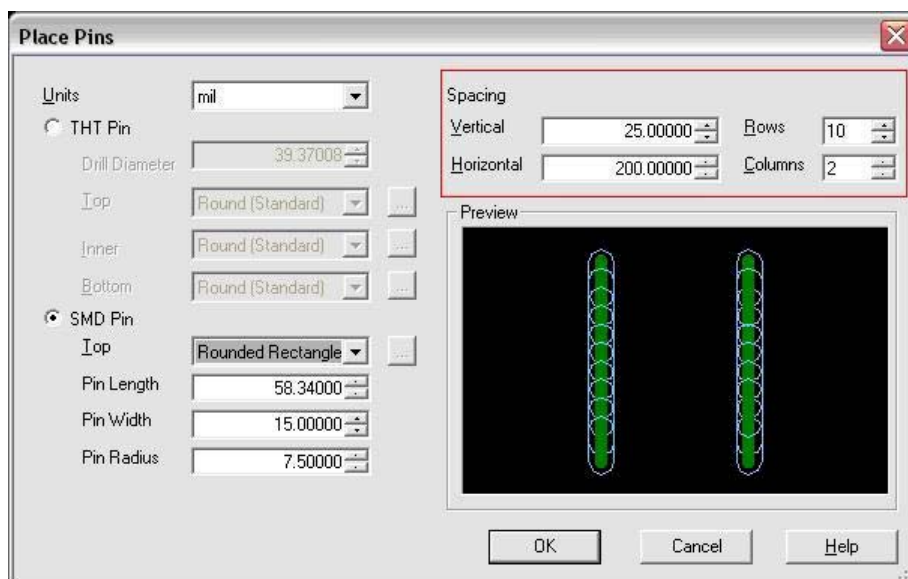

Figure 7 - Set SMD Pin Spacing
c.) You will now create the 10 by 2 SMD pin array to place on the landpattern. The vertical and horizontal spacing that will now be set indicate the center-to-center distance between adjacent pins. Set the following spacing values in Table 2. The dialog box should look like Figure 7.